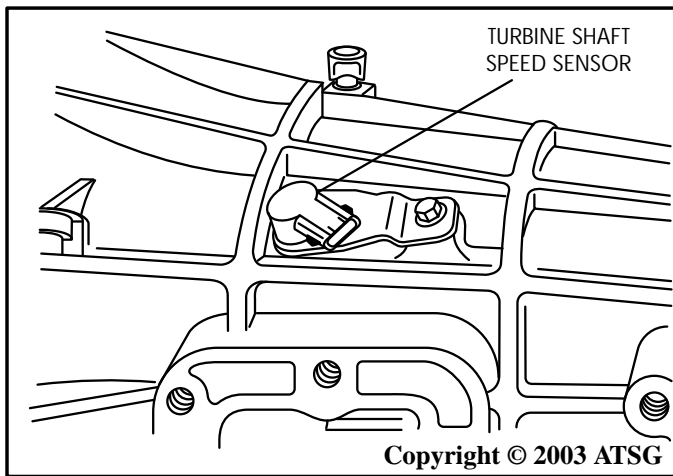

Figure 44
3. If equipped, the turbine shaft speed sensor and output shaft speed sensor must be removed to prevent damage, as shown in Figure 44 and 45.